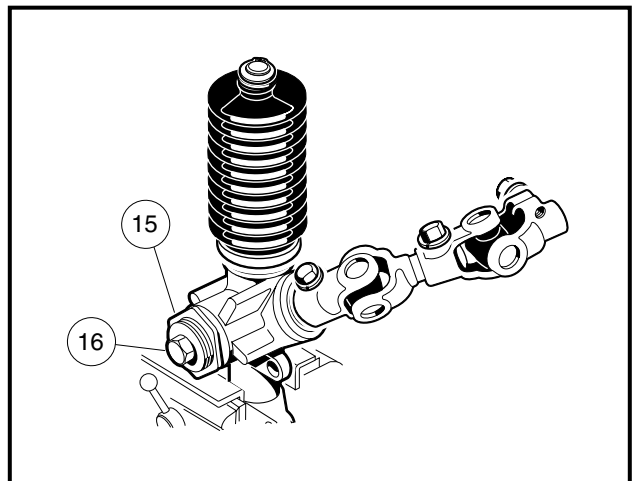

Figure 7-14 Rack and Pinion Adjustment
- 11.4. If measured resistance does not equal 7 to 15 in-lb, loosen the lock nut (15) and tighten the screw (16) until it bottoms out, then back the screw off one quarter turn. Tighten the lock nut to 28 ft-lb (38 N·m) (**Figure 7-14, Page 7-11**).
NOTE: When tightening the lock nut (15) make sure the screw (16) does not change adjustment (**Figure 7-14, Page 7-11**).